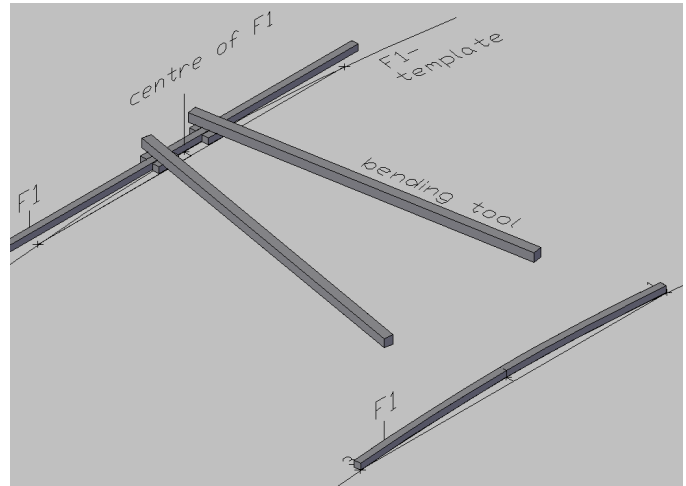

Fig. 47: Bending of F1
**Step 1** Bend piece F1 to the according curve. Ensure that the **INNER EDGE FOLLOWS THE CURVE PRECISELY** ( $\pm 0.5$  mm tolerance). Always start bending from the centre of the frame piece. See Fig.47